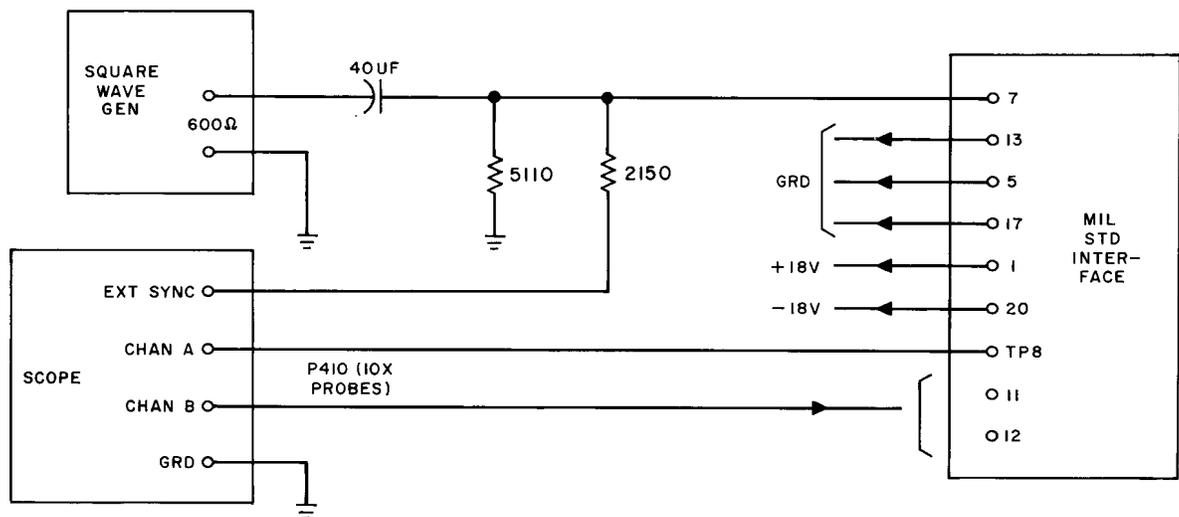

Fig. 69A — MIL. STD 188B Interface Test Circuit
(1) Connect the circuit pack to the suggested test circuit shown in Fig. 69A.
(2) Set the frequency of the square-wave generator to 5000 Hz (± 5 percent) with a duty cycle of 50 percent. Set the amplitude of the input pulse on terminal 7 (test point 8) to 2.0 (± 0.6) Vdc.